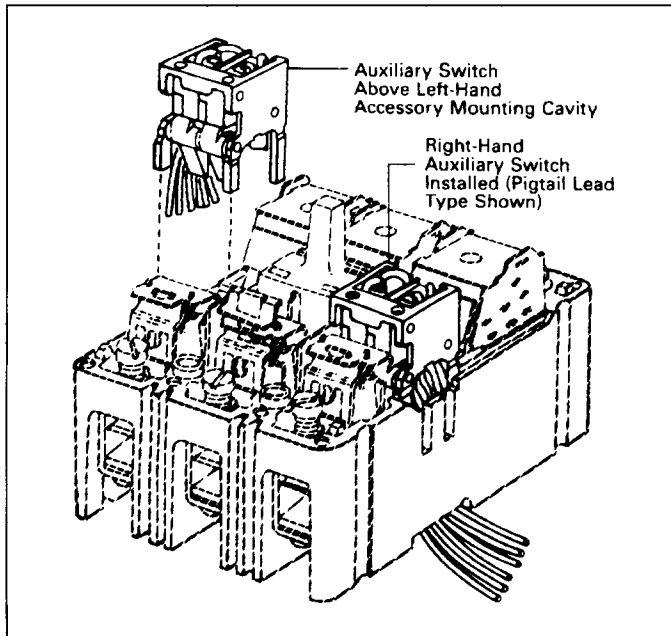

Fig. 2-4. Auxiliary Switch Installation Positions
- 2-5. Insert the auxiliary switch as described in the following steps (see Fig. 2-4):